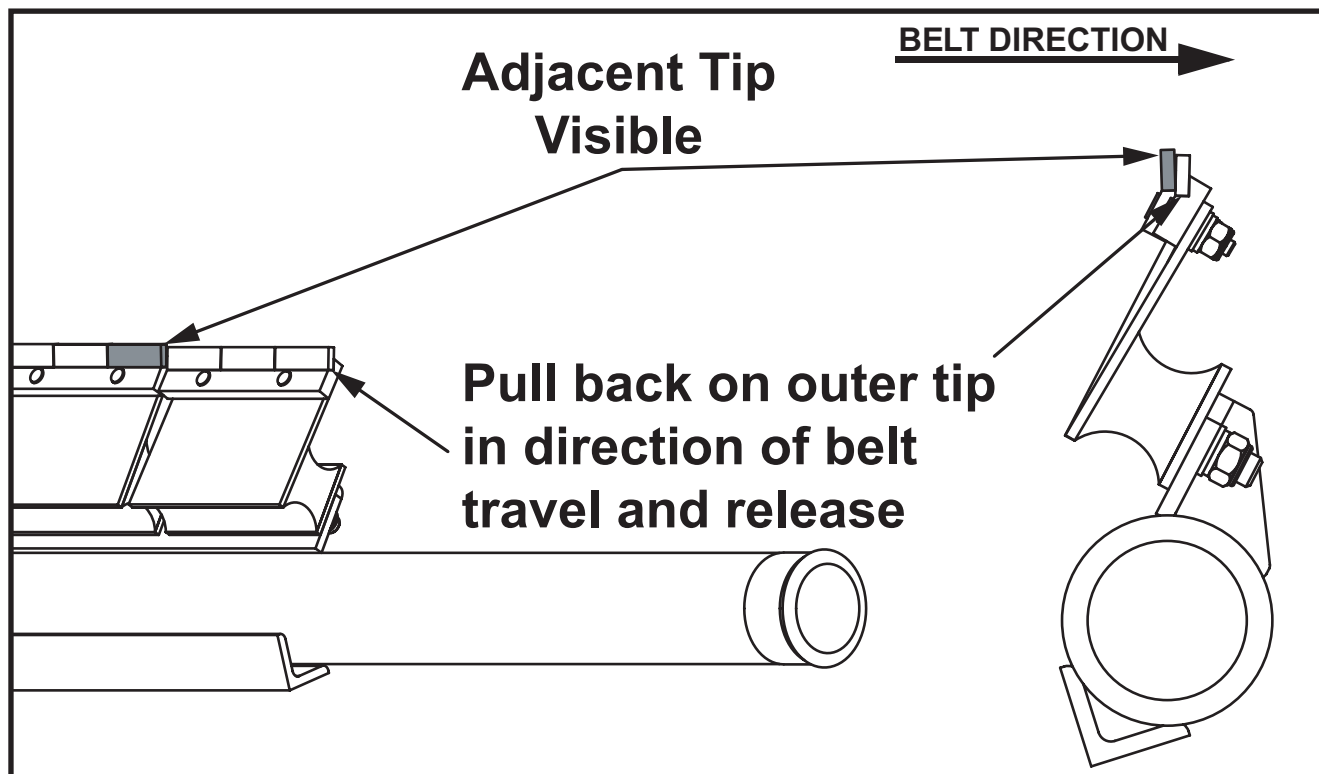

Figure 42. Martin® P2 Secondary Belt Cleaner HD Checking Tip Tension
10. Pull back on the outside tip until the tip to belt contact is broken and release. If the cleaner is correctly tensioned the complete blade of the adjacent tip will be visible. If not, add (or reduce) tension by making 1/2 turn adjustments on the adjuster bolt until the adjacent tip is visible. (Refer to Figure 42.)